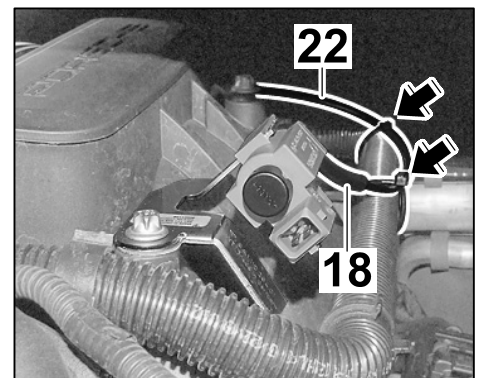

Figure 14
Fit straight protective tube ⇒ Figure 14
-18- on the vacuum line ⇒ Figure 14
Secure the vacuum line to the sheath with two tie-wraps ⇒ Figure 14 -arrow-.